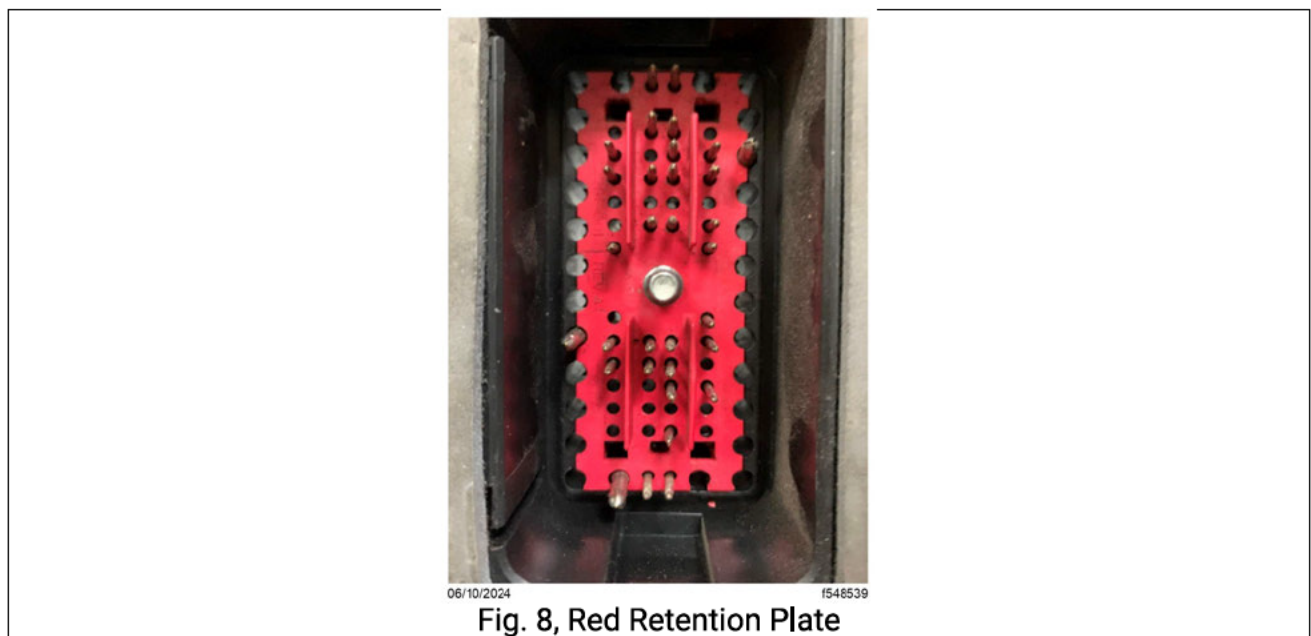

Fig. 8, Red Retention Plate
- Carefully pull the red retention plate out of the connector with pliers on the four red tabs, working around the mounting stud. See Fig. 8.